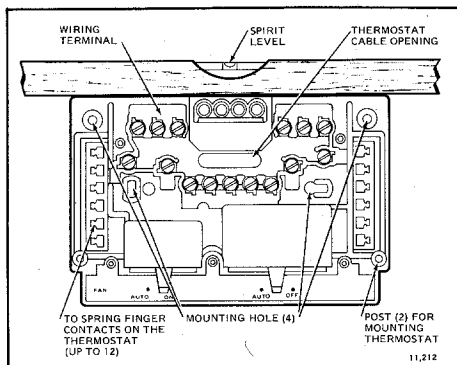

Fig. 3—Subbase components and leveling procedure.
2. Pull wires through the cover plate (if used) and subbase cable opening (Fig. 3).
4. Level the subbase using a spirit level, as shown in Fig. 3, and firmly tighten subbase mounting screws. The subbase mounting holes provide for minor out-of-level adjustments.